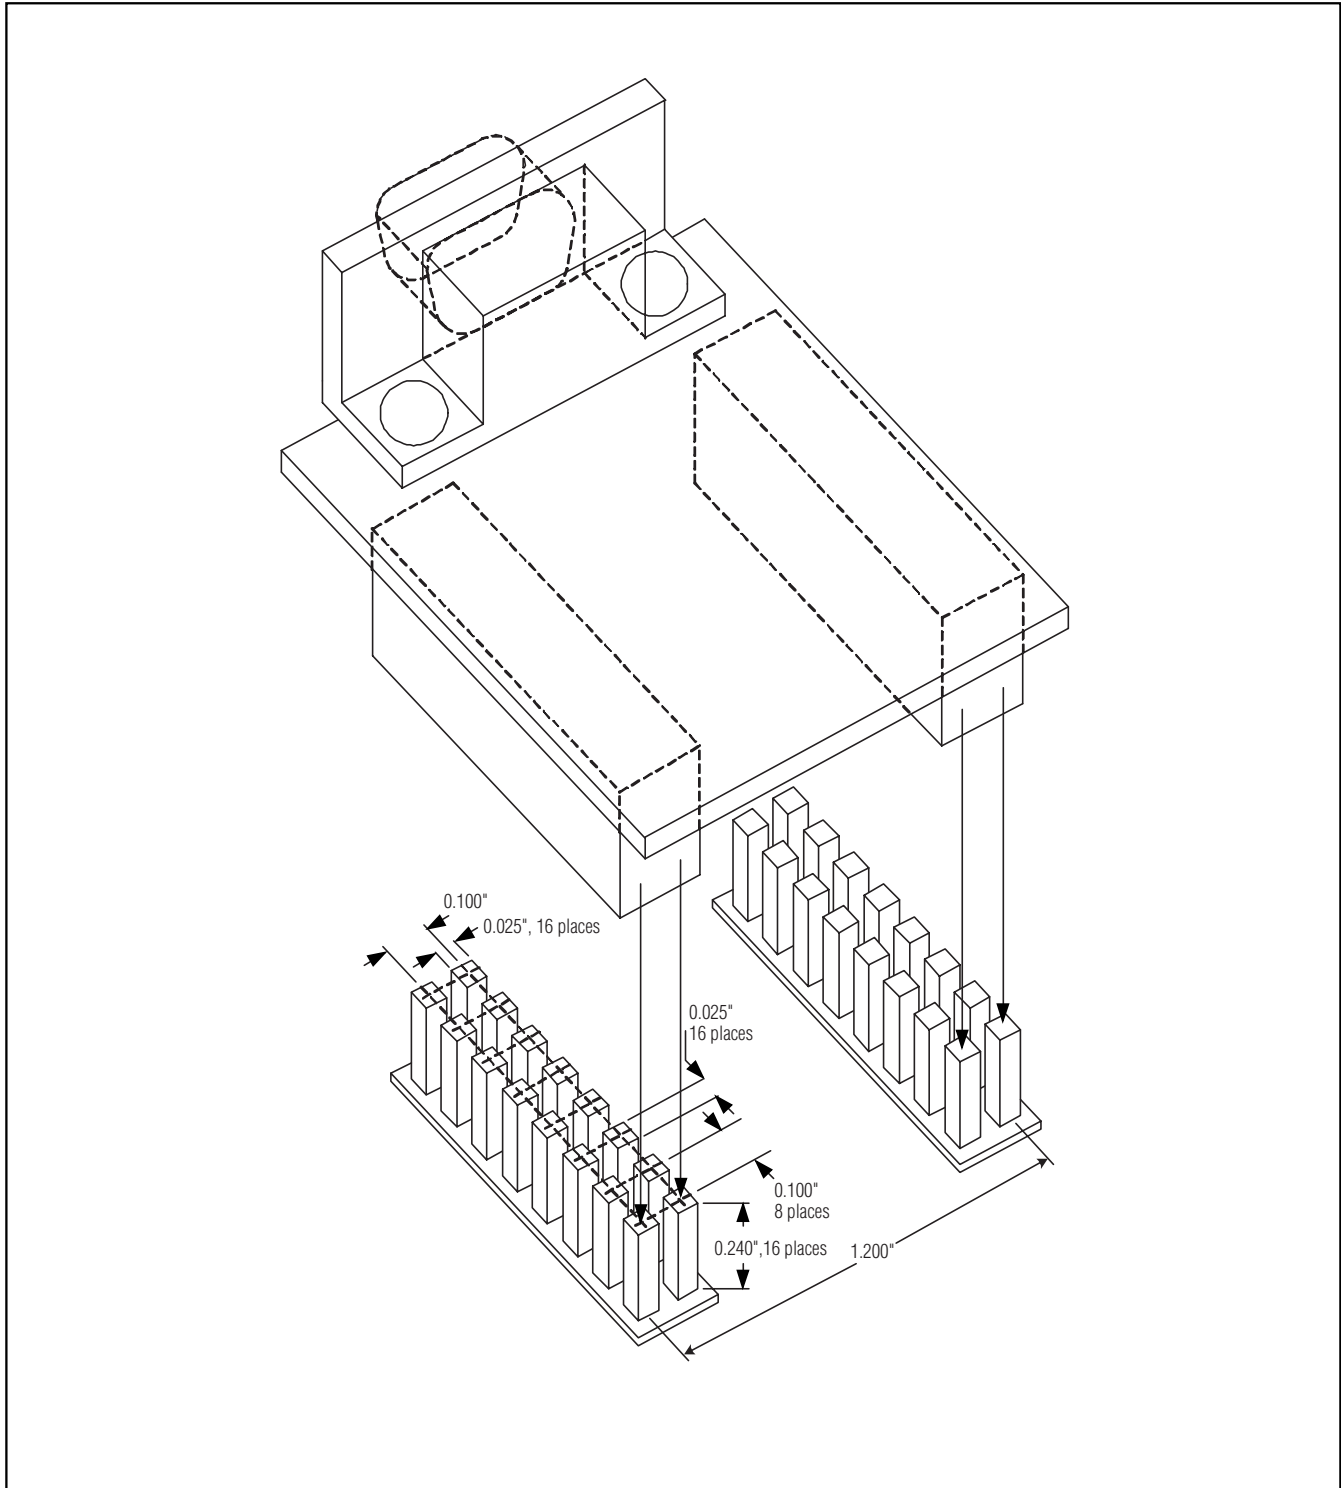

Figure 5. Recommended PC Board Connection for DS3900
**Note:** The DS3900 mates with standard 2.54mm (0.100in) 2 x 8 male header connectors. These connectors do not come standard with the board (see Figure 5).